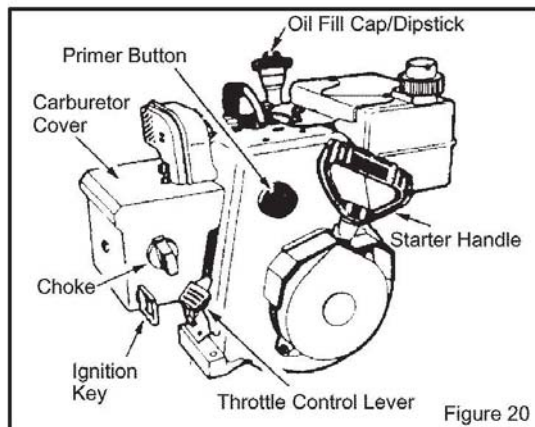
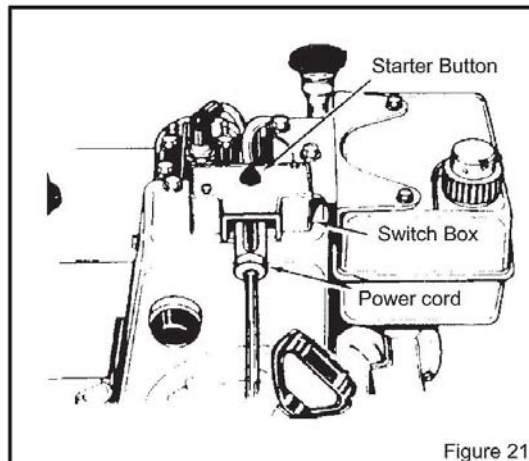

Figure 20
Figure 21
COLD ENGINE START (ELECTRIC STARTER) (SEE FIGURE 20 AND FIGURE 21)
3. Insert key into ignition slot. Make sure it snaps into place (Figure 20). Do not turn key.
5. Connect POWER CORD to SWITCH BOX (Figure 21).
- a. Push STARTER BUTTON (Figure 21) to engage starter motor and crank engine.
5. Connect the POWER CORD to the SWITCH BOX (Figure 21).